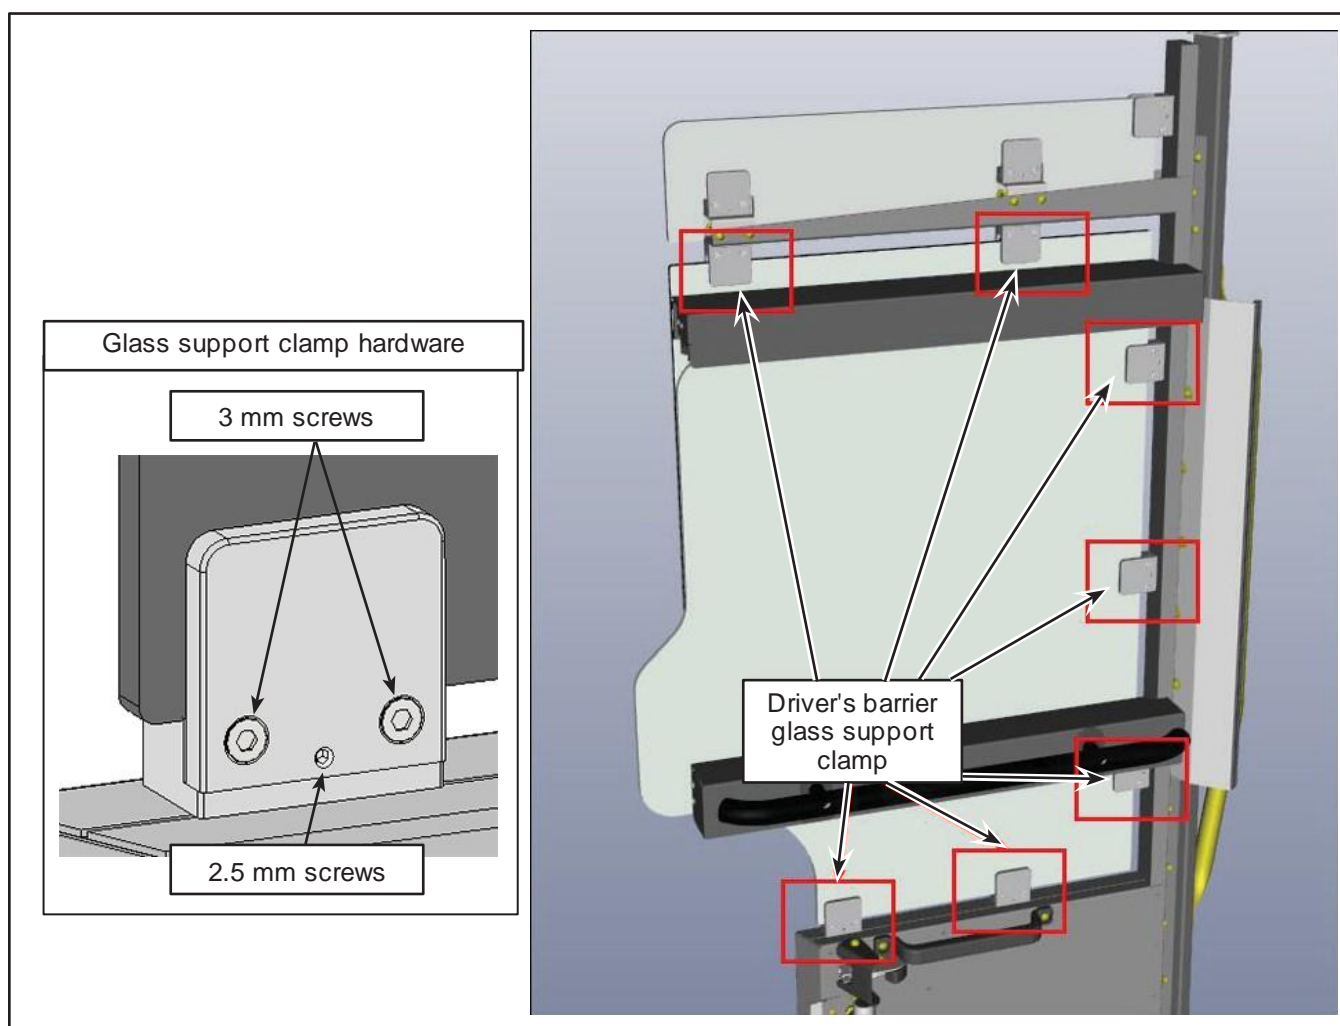

Figure 1 - Loosen the Glass Support
- a. To disassemble the clamp first loosen the 2.5 mm, then loosen the 3 mm screws. See Figure 1.